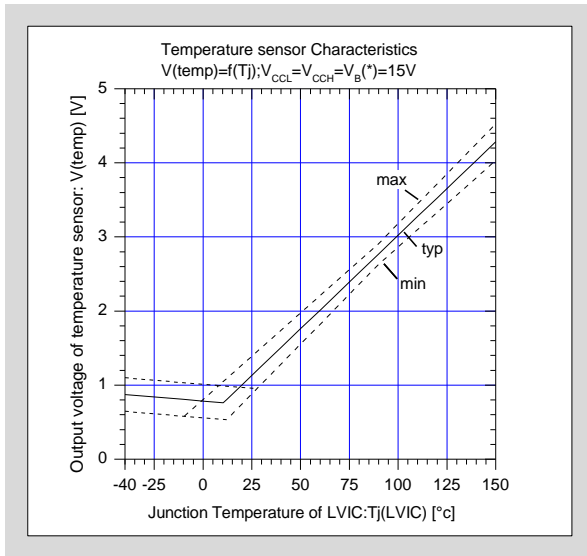
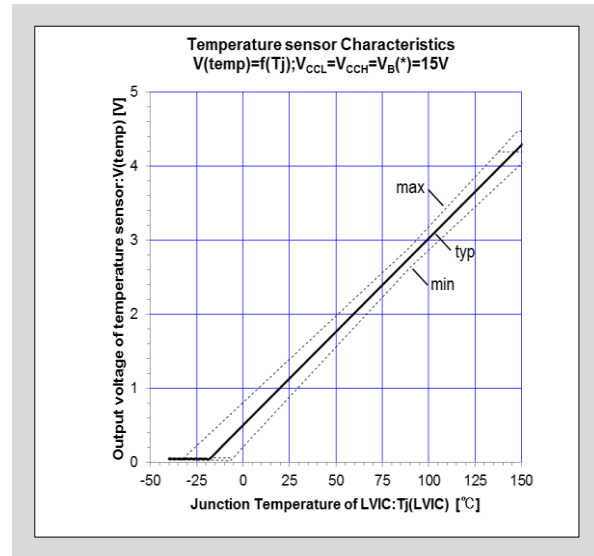

Fig.3-24 LVIC temperature vs. TEMP output voltage characteristics without pull-down resistor
Fig.3-25 LVIC temperature vs. TEMP output voltage characteristics with 22kΩ pull-down resistor
- Fig.3-24 shows the LVIC temperature versus TEMP output voltage characteristics. A Zener diode should be connected to the TEMP terminal when the power supply of MPU is 3.3V. Fig. 3-25 shows the LVIC temperature versus TEMP output voltage characteristics with $22k\Omega$ pull-down resistor.